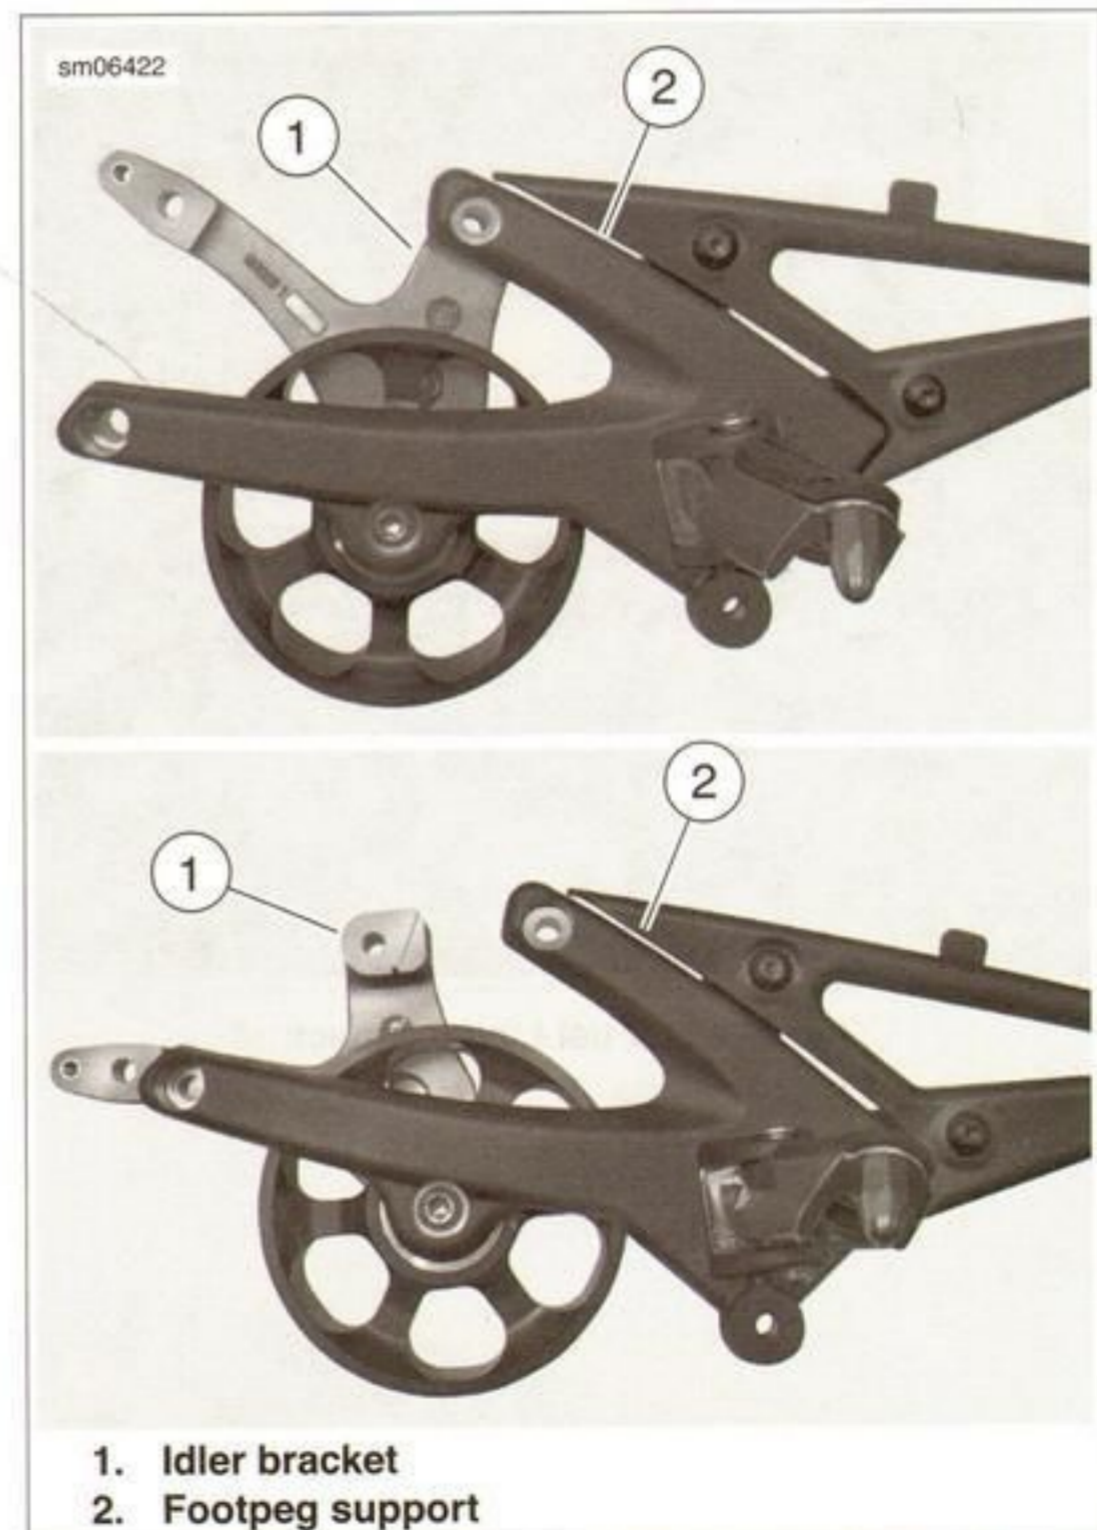

Figure 3-26. Scissor the Footpeg Support and Idler Bracket
- f. See Figure 3-26. Scissor the idler pulley bracket and the footpeg bracket to remove the belt.